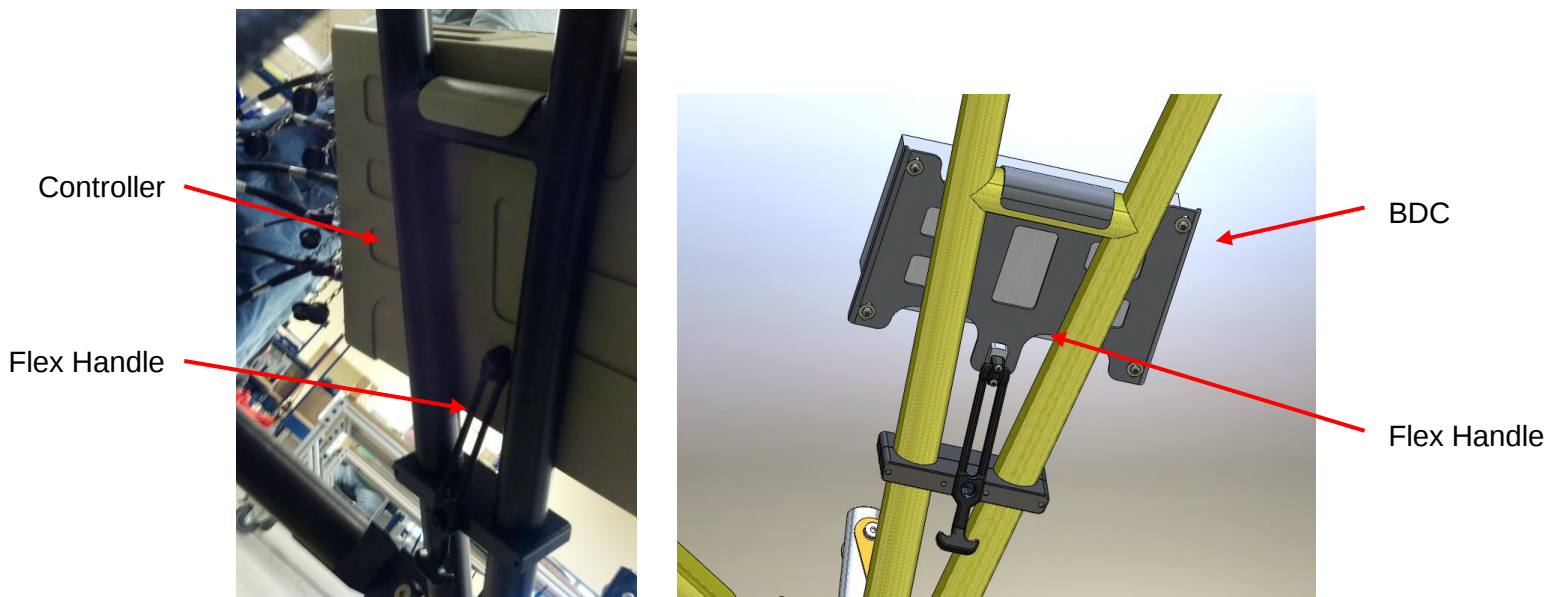

Figure 39. Attachment of the RC4000 and BDC
3. Hook the RC4000 bracket over the center brace on the right diagonal tube assembly and connect the flex handle to corresponding attachment point as shown in Figure 39.
4. Hook BDC bracket over the center brace on the left diagonal tube assembly and connect flex handle to corresponding attachment point as shown in Figure 39.